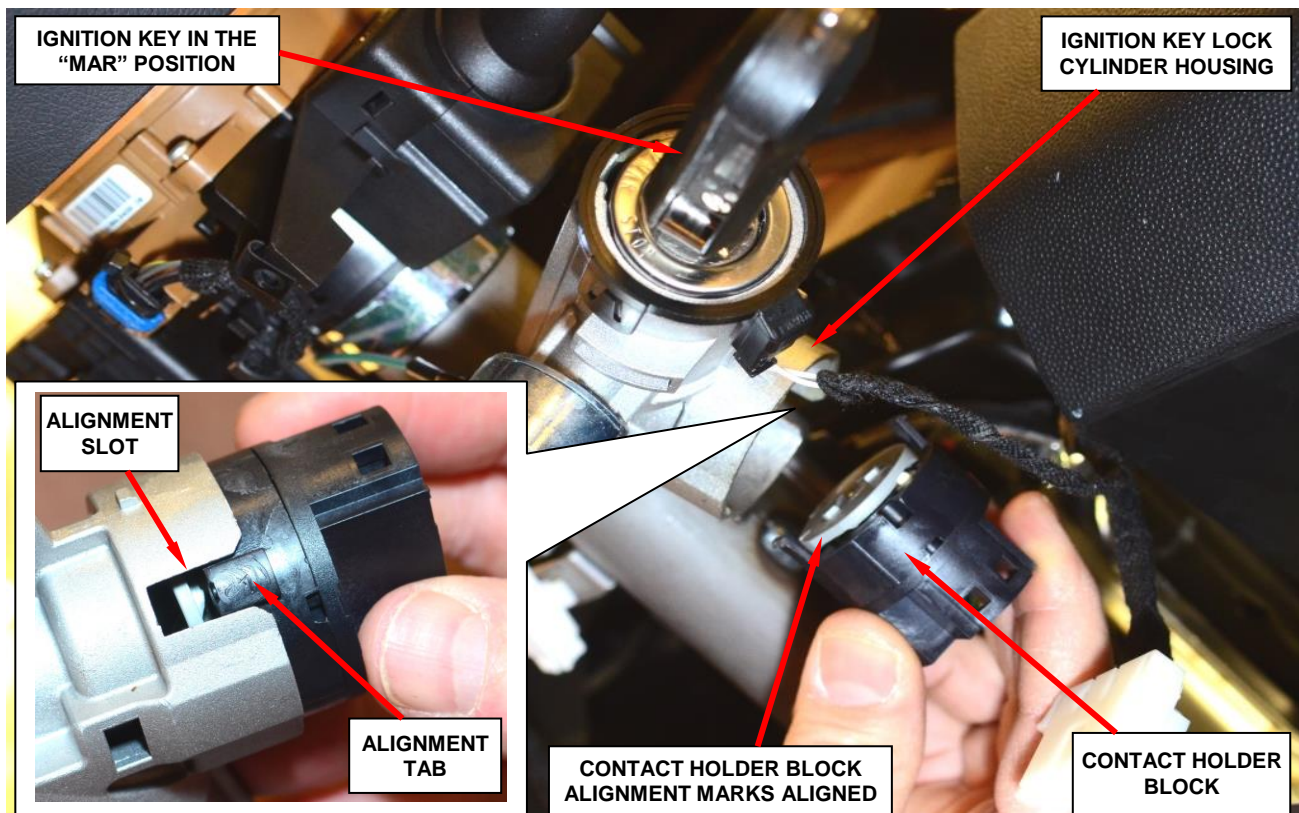

Figure 7 – Contact Holder Block Alignment Tab
- 13. With the ignition key in the “MAR” position and the contact holder block alignment marks aligned, insert the new contact holder block in the ignition switch housing. Be sure to align the contact holder block alignment tab so it aligns with the slot in the ignition switch housing (Figure 7).